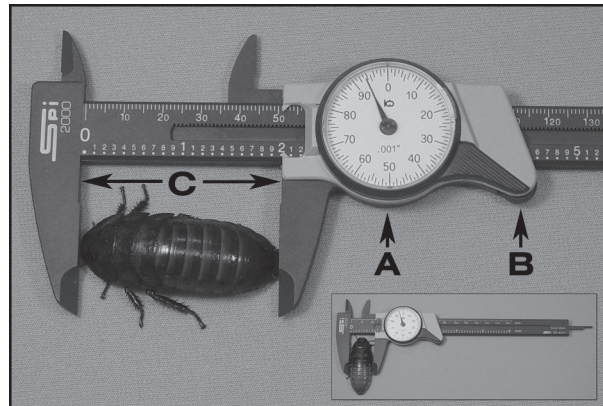

Figure R7.1 | Dial Calipers
Measuring linear dimensions (the distance between two points) is usually associated with using a ruler or a tape measure. For measuring objects in lab, you want to make as precise a measurement as is possible. One way of making more accurate measurements is to use calipers (Figure R7.1).
A. Make sure that the calipers are zeroed. That is, make sure that the pointer on the dial is pointed exactly at 0 (A in Figure R7.1). If necessary, you can calibrate the dial by gently using the ridges on the clear plastic face to turn the dial until the pointer and the tick mark at 0 line up exactly, when the jaws are shut tight.
B. To measure outer dimensions of an object, use your thumb to roll the wheel (B in Figure R7.1) counterclockwise until the object will fit into the area between the lower set of jaws (C in Figure R7.1). This provides accurate measurement of any object, such as a hissing cockroach, that will fit between the set of jaws.